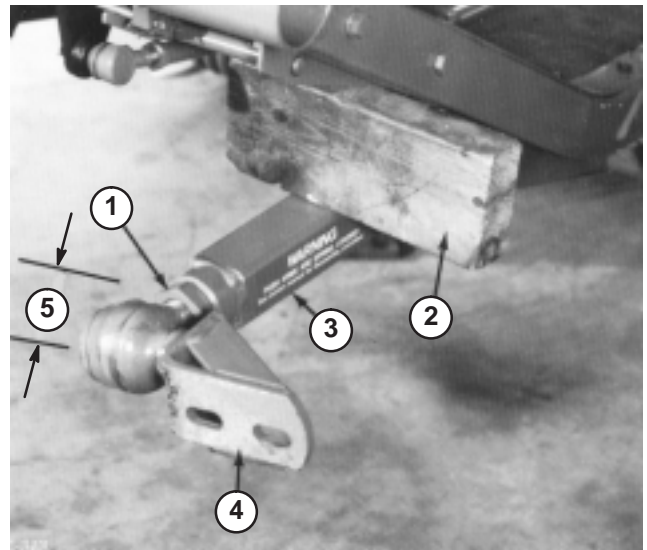

Figure 11
3. Have a helper push down on the left push arm. Then insert a 2 x 4 in. (51 x 102 mm) block of wood between the frame and top of the push arm (Fig. 11). Screw ball joint into left hand push arm until center of ball joint is 2-3/8 in. (60 mm) away from front of push arm (Fig. 11). Do not tighten jam nut.